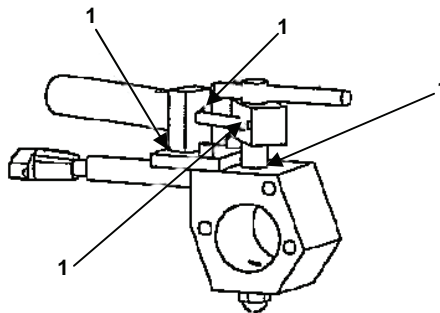

Figure 5. Air Shutoff Valve Lubrication.
1. Lubricate with a few drops of clean engine oil at pivot points (Figure 5, item 1).